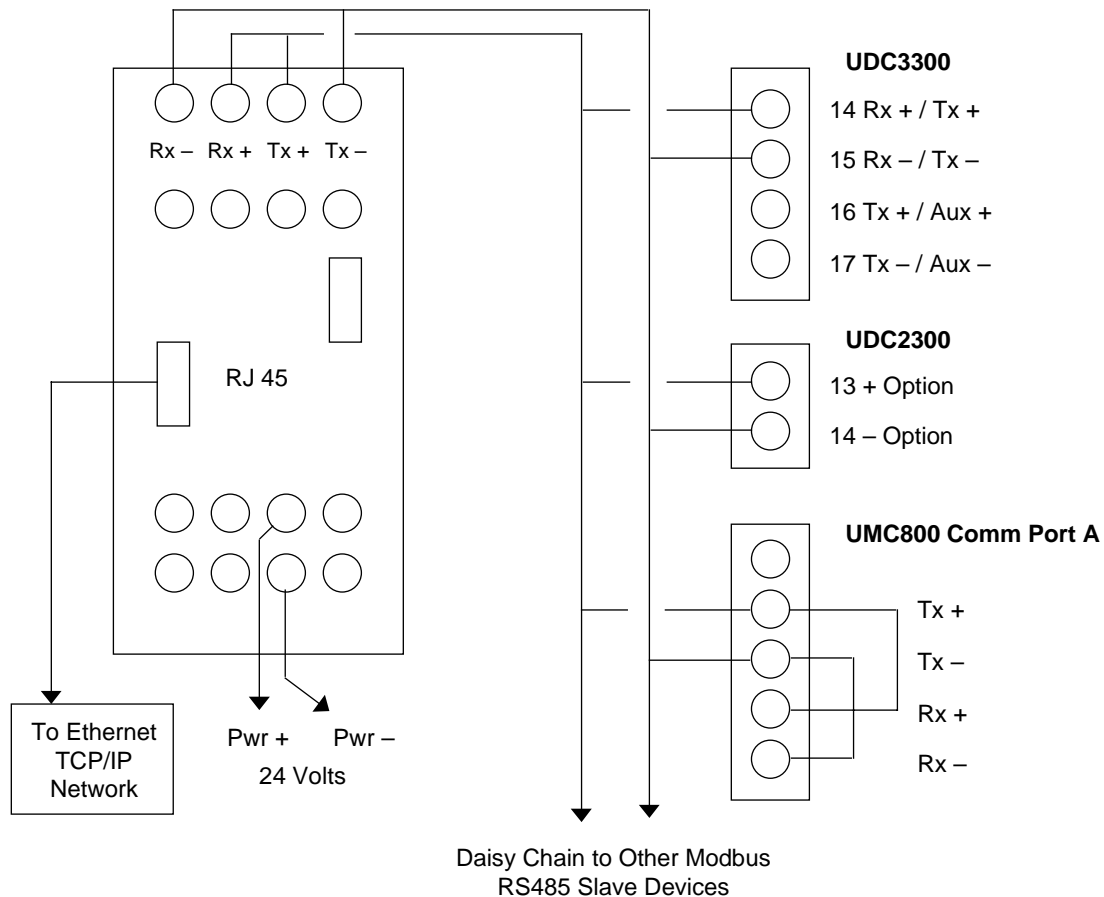

Figure 4 – Lantronix CoBox DR-1 Bridge to UDC 3300, UDC2300, UMC800 Wiring Diagram
Step 1: Wire the hardware together. See Figure 4.
Wire the CoBox DR-1 to the Honeywell devices as shown in Figure 4. Up to 32 Honeywell devices may be connected to the RS485 link. The link should be terminated at both ends with 120-ohm resistors.